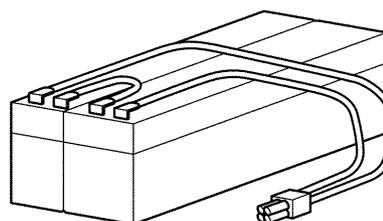

Figure 4-28 Connecting Built-In Batteries
1. Connect the two batteries in series as shown in *Figure 4-28 Connecting Built-In Batteries*. The red cord attaches to the **red** terminal and the black cord attaches to the **black** terminal.